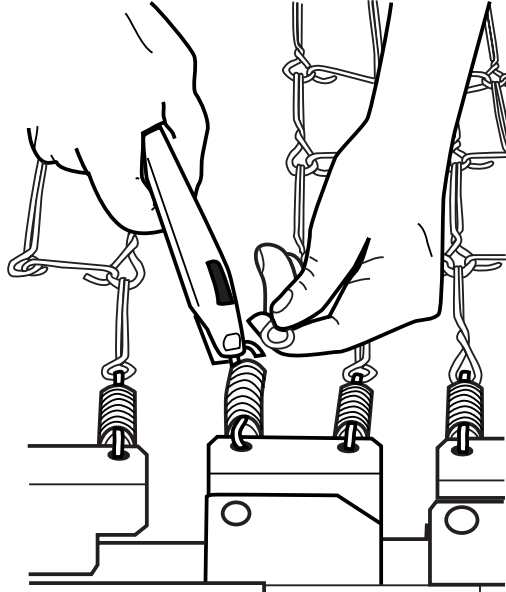

FIGURE 4 - ATTACHING STRANDS TO EXTENSION
8. Using vise grips, secure the helical spring into the mounting hole on the four-inch extension. Refer to **FIGURE 4**.